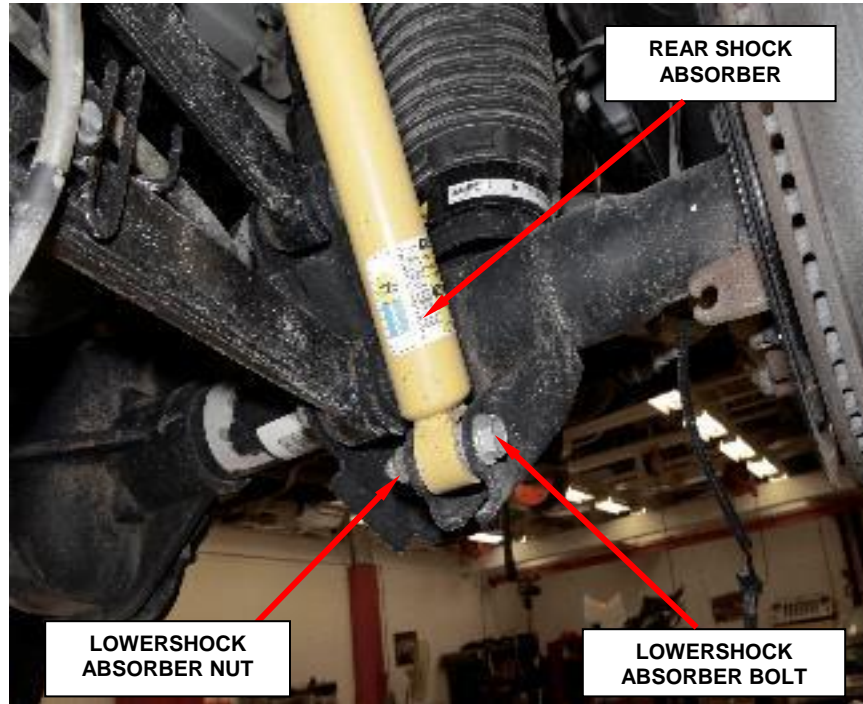

Figure 14 – Shock Absorber Bolts
17. Remove and save both lower shock absorber bolts and nuts then position the shock absorbers away from the axle (Figure 14).